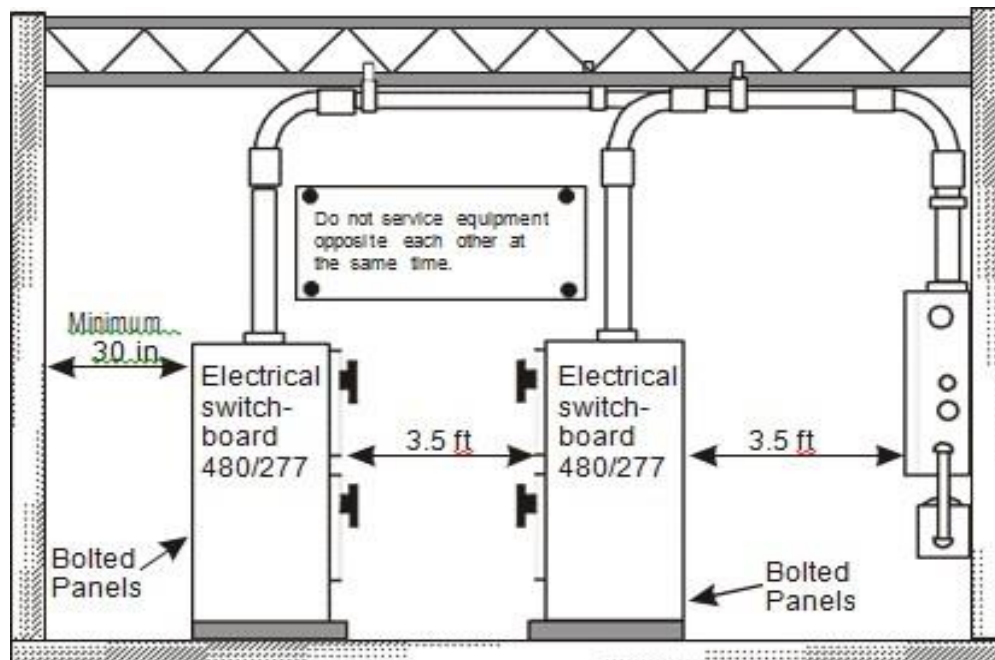

Figure 6.3 – Working space requirements for rear or side access
- B. Provide a working space of at least 30 inches horizontally where rear or side access is required to work on de-energized parts of enclosed equipment (see figure 6.3).